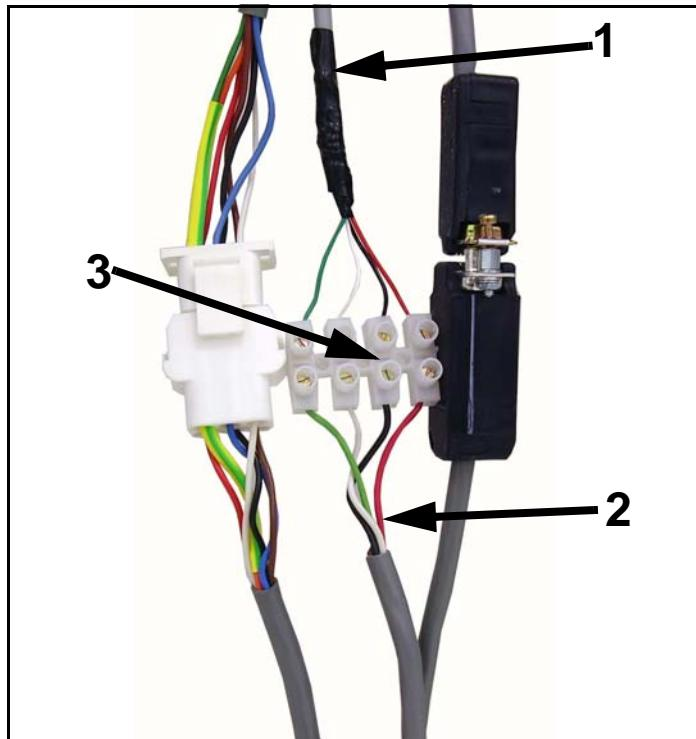

Figure 2-24. PBL Cable
- 1 Connect wallstand PBL cable (1 in Figure 2-24) to system PBL cable (2). Green wire goes to green wire, white to white, etc. The figure shows a terminal block (3) connecting the two cables. This terminal block is not provided with the wallstand.